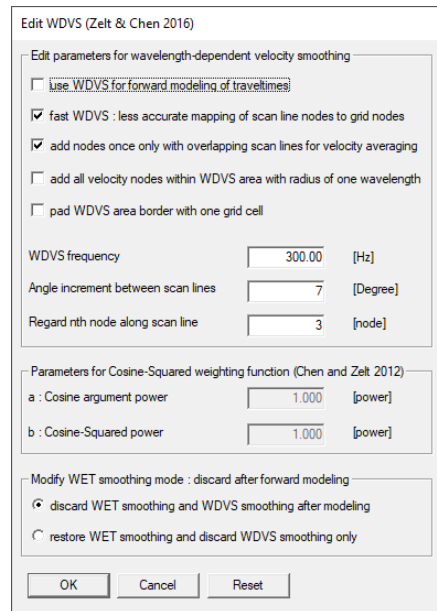

Fig. 14 (right) : *Model, WDVS Smoothing*. Click radio button **discard WET smoothing and WDVS smoothing after modeling** and click OK.
Fig. 4 : 20 Steepest-Descent WET iterations using 1D-gradient starting model (Fig. 6). Discard WET smoothing (Fig. 14). Manual WET smoothing filter : half-width 15 columns, half-height 15 rows. Gaussian Smoothing filter weighting : **Used width of Gaussian** set to 1.5SD. **Grid cell size** forced to 0.5m in *Header, Profile* (Fig. 11). Starting model shown in Fig. 6. Fig. 10 shows misfit for one shot gather and for shot-sorted traveltimes curves.
- leave *use WDVS for forward modeling of traveltimes* unchecked (Fig. 14)
Fig. 17 : *Smooth invert|WET with 1D-gradient initial model. Discard WET smoothing in Model|WDVS Smoothing dialog (Fig 14). Default WET smoothing. Grid cell size forced to 0.5m in Header, Profile (Fig. 11). Starting model shown in Fig. 6.*